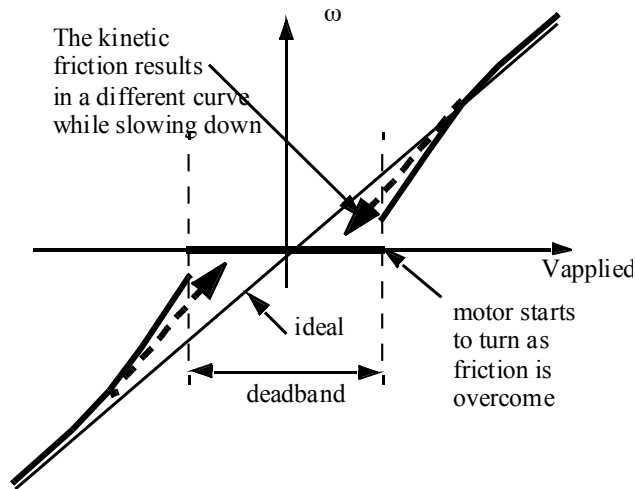
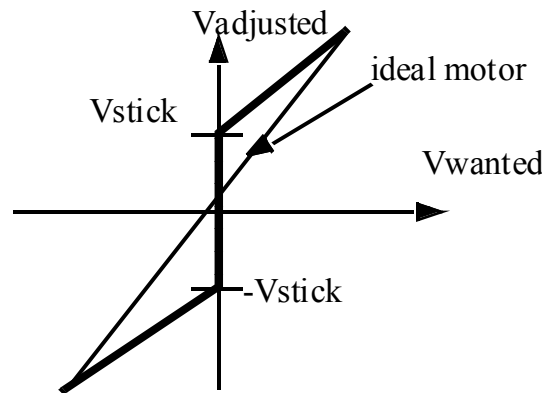

Figure 1: Graphical representation of motor deadband for a bidirectional motion.
Figure 2: Possible deadband compensation scheme for a bidirectional motor
Motor internal friction consists of two types: static and kinetic. Static friction, ‘stiction’, will prevent initial motion. If the motor supplies enough torque to break free and start turning, the kinetic friction will provide a roughly constant friction torque. Figure 1 shows an example of how this friction affects the relationship between the voltage applied to a motor and the resulting velocity. At very low voltages the torque is too low to overcome the stiction. The region where the applied voltage has no effect is called the deadband. Once the applied voltage exceeds the deadband limits the motor will start to turn. While turning, the motor experiences kinetic friction, damping and other effects. If the voltage supplied to the motor is slowly decreased it will eventually ‘stick’. However, the sticking force will be lower than the static friction force. This alternate path is shown in the figure as a heavy dashed line.
There are a number of methods for compensating for a non-linear deadband in a system. A simple method is shown in Figure 2. This method involves finding the voltages where the motor breaks free in the positive and negative directions. These are used in a program to change the wanted output voltage, to an adjusted output voltage.
The main goal of this portion of the lab is to experimentally generate a graph that like that shown in Figure 1. Note that the x axis is commanded PWM output and the y axis is steady-state rotational velocity. Note that there should be different curves for increasing the decreasing the input. For each open-loop input value, you will need to find the steady-state rotational velocity.
Once you have data and a reasonable model for the deadband of the motor, develop code that compensates for the deadband as illustrated in Figure 2. Make sure that your deadband compensation can easily be turned on and off so that you can compare the response with and without it. Your compensation scheme will likely need to consider where the system is currently operating on Figure 1.
- Discuss the code that allowed you to generate Figure 1
- Discuss your experimental Figure 1